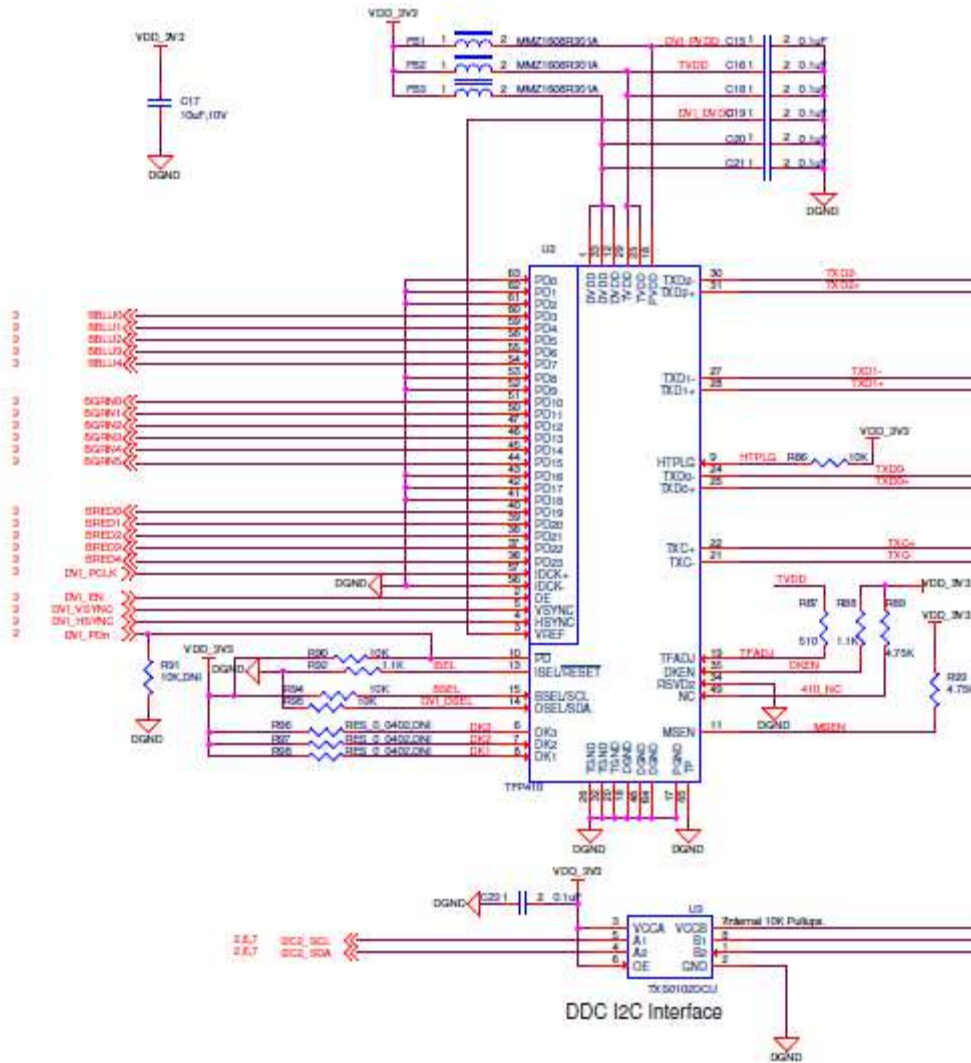

Figure 11. Digital Transmitter and 2-Bit Voltage Translator
TFP410 is a digital transmitter which transmits LCD signals to the HDMI port. The DVI power down signal is connected to the active-low power down pin (PD) of the transmitter. The TFP410 transmits three pairs of differential signal outputs and one pair of differential output clock to the HDMI connector. The EDID I2C signals that goes to the HDMI connector is at 5V; thus, a 2-bit bi-directional voltage translator TXS0102DCU is required to step up the EDID I2C signals from main expansion header P2 to 5V. **Figure 11** shows the TFP410 and TXS0102DCU in the schematic.